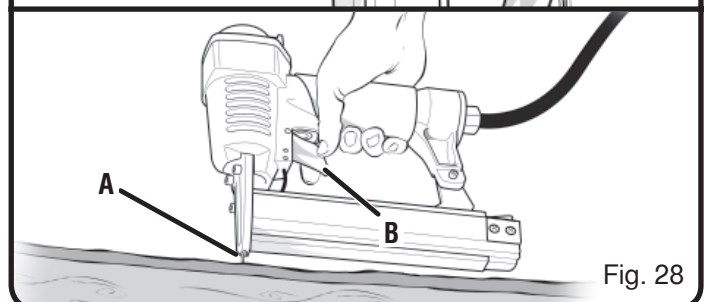

Fig. 28
- 13) Once the compressor has been restarted, the stapler is ready for use again (Fig. 28).